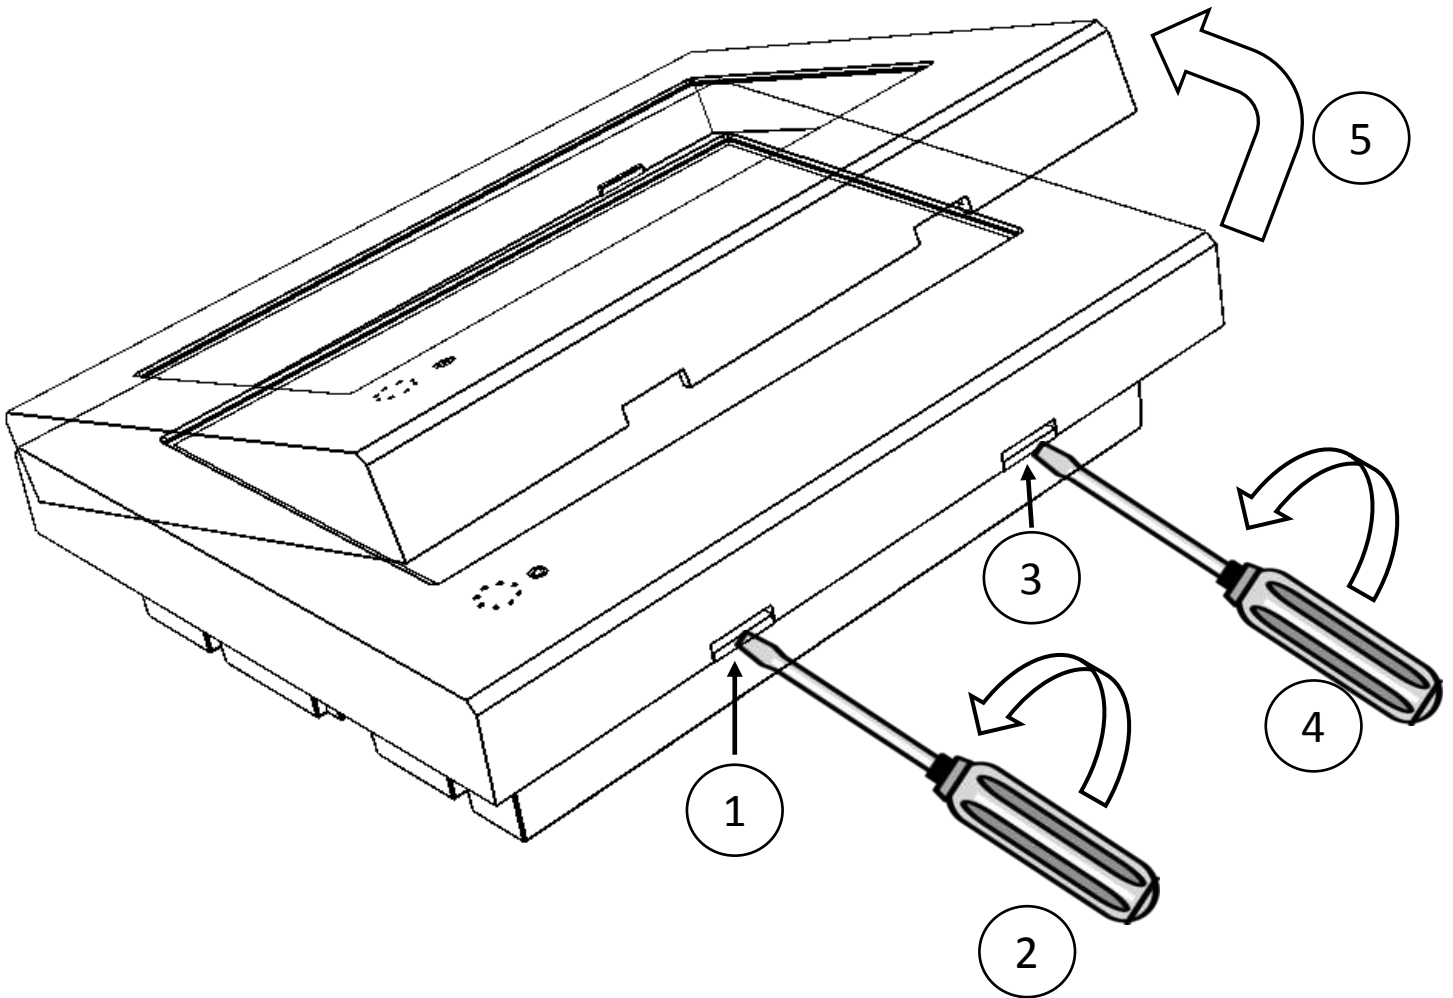

Figure 4 Remove Front Cover
To remove front cover of panel, follow the sequence depicted in Figure 4
- Use wide flat screw driver to unlatch the two hooks from the bottom side of the panel and then lift up and unhook bottom edge of the front cover from the base of the panel as shown in Figure 4